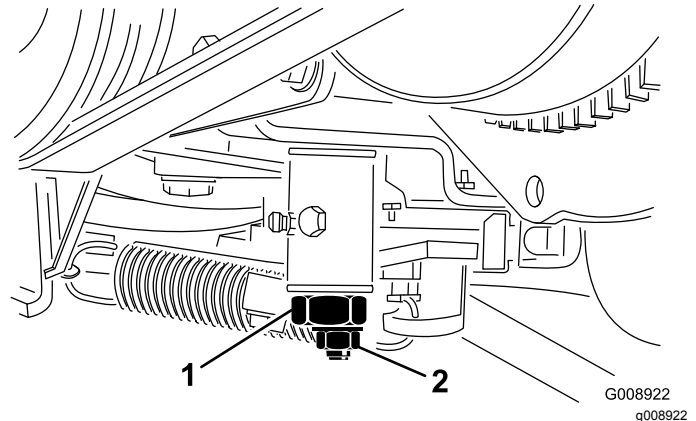

Figure 67
3. Loosen locknut on traction adjustment cam (Figure 67).